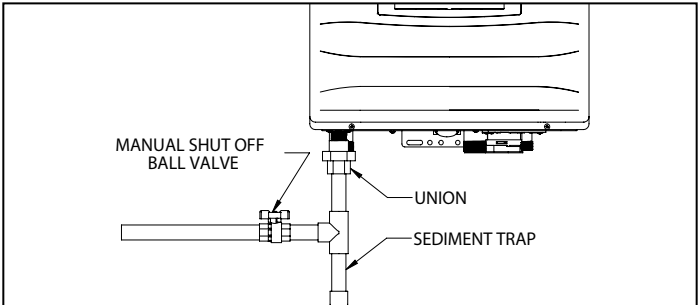

Figure 43 - Gas Line with Shut-Off and Sediment Trap Detail
4. The National Fuel Gas Code (NFPA 54) requires that a sediment trap (drip leg) be installed in the gas line on appliances not so equipped. The drip leg must be accessible, a minimum of 3" in length, and not subject to freezing conditions. See Figure 43.
5. A manual gas shut-off valve should be installed in the gas supply line close to the water heater. See Figure 43 for detail.